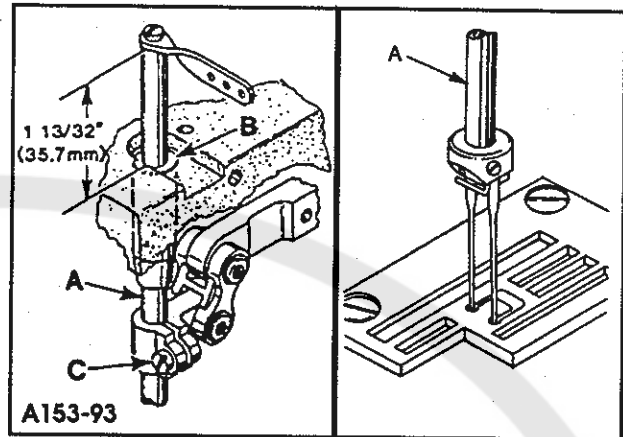
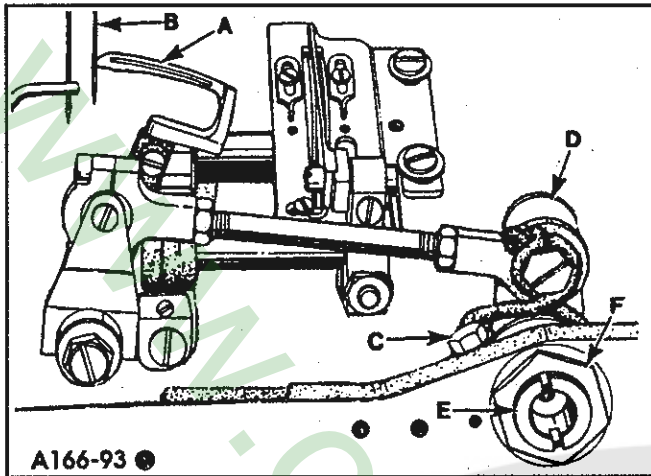
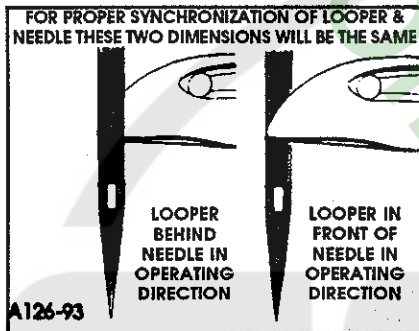

FIG. 4
FIG. 6
FIG. 7
Insert a new set of needles. With needle bar (A, Fig. 4) at top of its stroke, check to ensure an approximate setting of  $1 \frac{13}{32}$ " (35.7mm) from top of needle bar to top of needle bar bushing (B). Adjustment can be made by loosening clamp screw (C) and moving needle bar up or down, re-tighten screw (C) TEMPORARILY. Turn handwheel to bring needle bar down to ensure that needles center in needle holes of throat plate as shown in Fig. 4. Adjustment can be made by loosening screw (C) slightly, allowing needle bar to be turned as required, being careful not to change the temporary height setting. Tighten clamp screw (C). Re-check temporary height setting.
Insert looper into the looper rocker, pushing it all the way down and tighten screw against flat on shank of looper. Turn handwheel in the operating direction until the point of the looper (A, Fig. 6) moving to the left, is even with the left side of the right needle (B). Note the height of the eye of the needle with respect to the looper point. (See Fig. 7). Turn the handwheel in the reverse direction until the point of the looper again moving to the left, is even with the left side of right needle but in front of the needle (See Fig. 7). If the height of the eye of the needle with respect to the looper point are the same, looper and needle motions are synchronized - a variation of .005" (.127mm) is allowable.
Loosen screw (C, Fig. 6) in looper drive lever (D). A rod of .146-40 thd. or Union Special Screw No. 22870 A can be threaded into the looper drive lever rocker shaft through the center of thrust adjusting screw (E). Tap or pull slightly as required to position shaft for proper synchronization. Tighten screw (C) securely and remove rod or screw used to position shaft.
Turn handwheel in operating direction until point of looper is flush with the left side of left needle. Final setting is  $\frac{3}{64}$ " (1.2mm) between top of needle's eye and bottom surface of looper (See Fig. 7). If adjustment is required, loosen screw (C, Fig. 4) move needle bar CAREFULLY up or down, not to disturb alignment of same. Re-tighten screw (C) and check to ensure that the needles center in needle holes of throat plate.